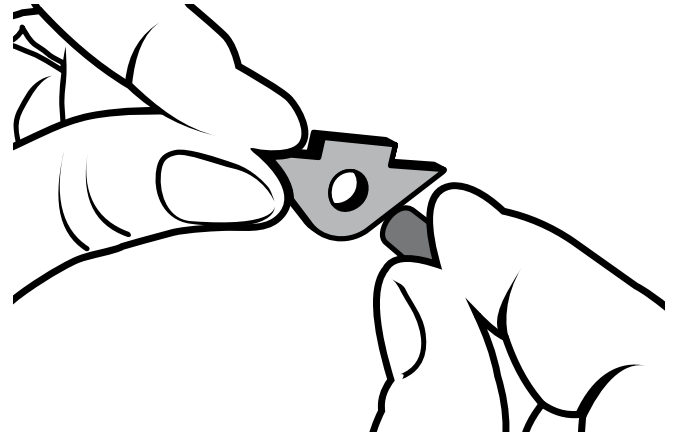

Figure 2
2. In each Part 4, push in one of the bushings in the part's hole (Figure 2). Be careful not to break the wood parts when you do this.